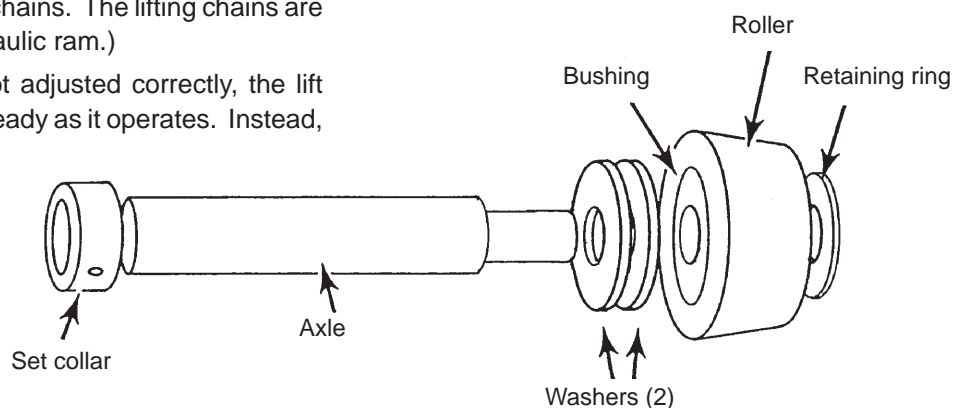

Fig. 1-21 – Roller Assembly
1. The guide wheels are designed to allow the lift platform to move up and down smoothly. Each wheel assembly can be replaced easily if it wears out. See Fig. 1-21.